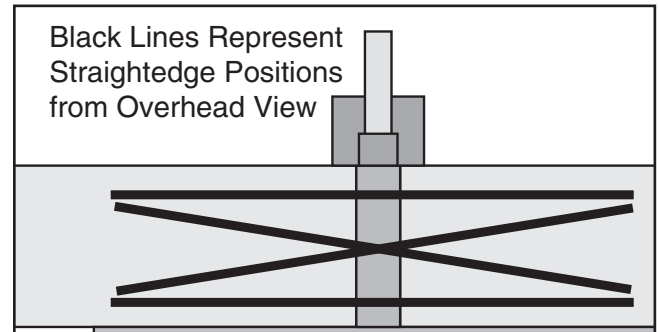

Figure 60. Straightedge positions for checking infeed/outfeed table parallelism.
- Place straightedge in each position shown in **Figure 60**, and adjust eccentric bushings under infeed table so straightedge lies flat against both tables.